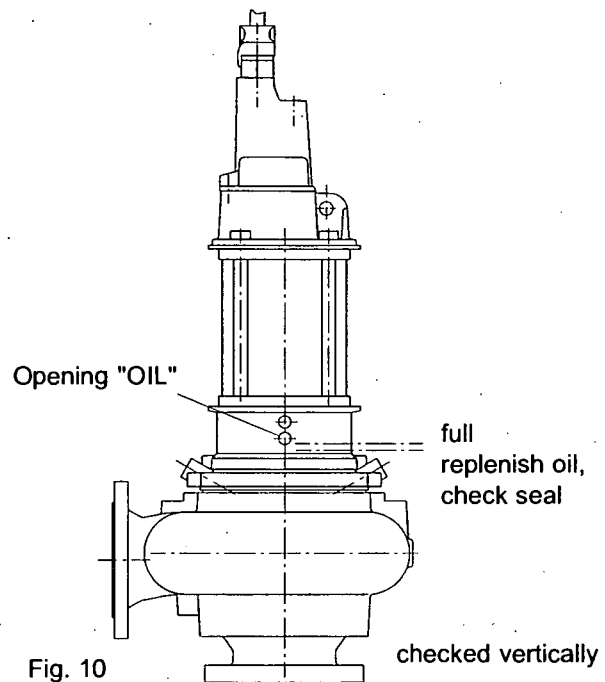

Fig. 10
1. For pumps with cooling type "F" or "K" stand pump with shaft vertical and remove screw plug "OIL". Coolant level must be at the level of opening "OIL" (Fig 10).